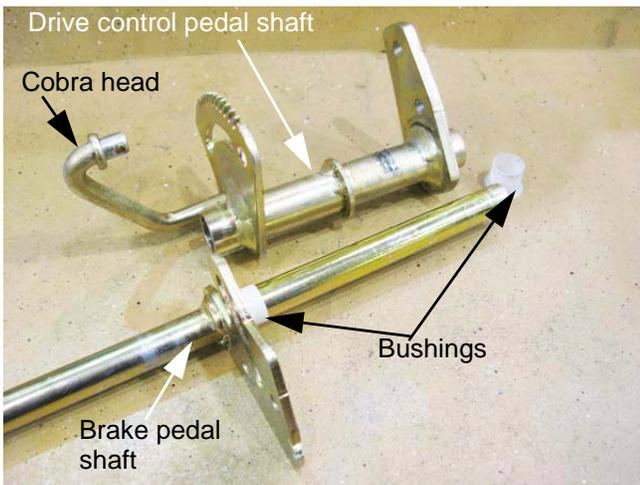

Figure 6.29
15. Once the cobra-head rod is loose, the drive control pedal shaft can be rotated and slipped off of the brake pedal shaft. See Figure 6.29.